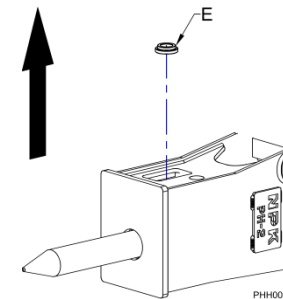

**Figure 2**
2. Remove the retaining pin ring (E) by using a screwdriver (t22), see Figures 2 and 3. It will easily come out if pried at an angle as shown in Figure 3.